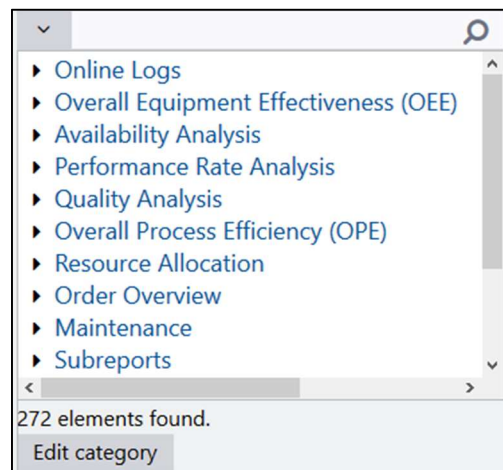

Fig. 152: Navigation area
1. Click **Edit category** (see Fig. 152).